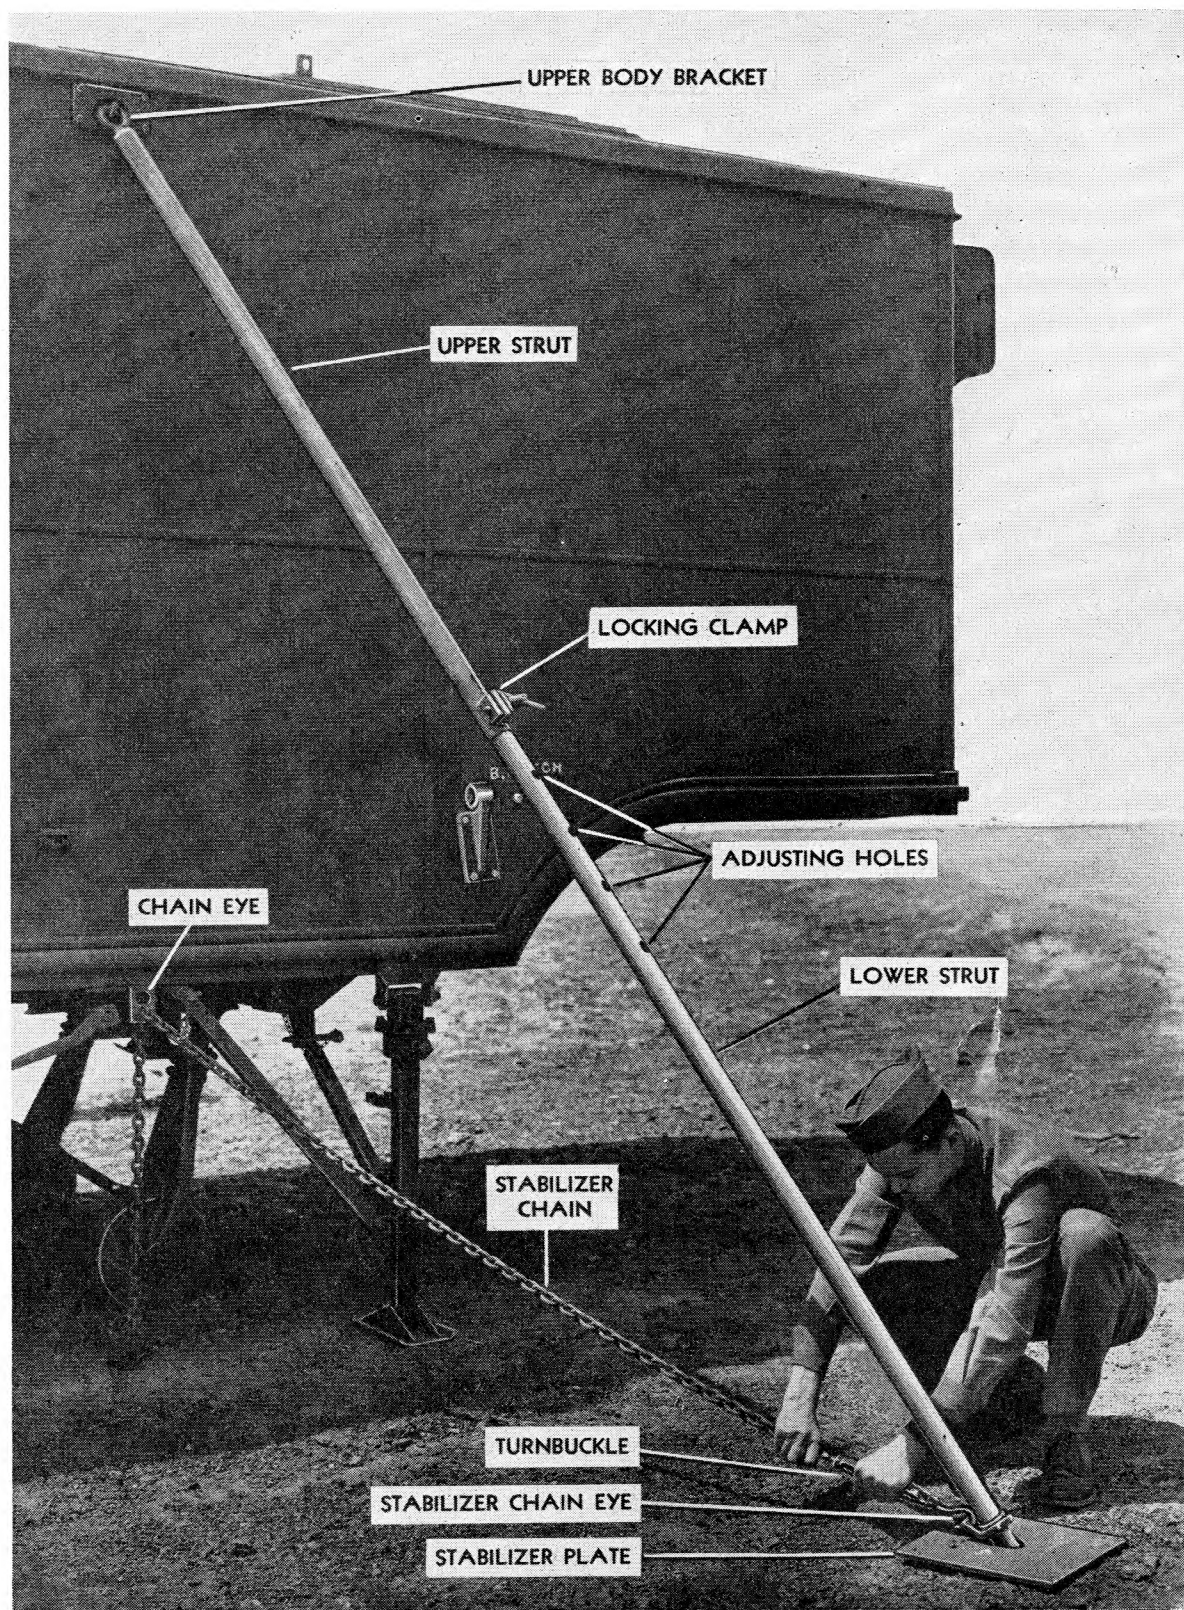

Fig. 10—Stabiliser assembly in position, turnbuckle being tightened
- (b) Refer to Fig. 10. Slacken the locking clamp handle, and slide the lower strut out until the locking pin, which is under the locking clamp handle, falls into the fifth adjusting hole in the lower strut. Tighten the locking clamp handle. (The other holes in the lower struts are provided for lengthening or shortening the struts when the ground around the trailer is not level).